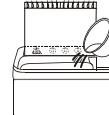

Figure 2
② Set the water level adjusting lever to needed line.
2. Fill the water and add the dissolved washing powder to make the water level reach the preset position. (Figure 2)